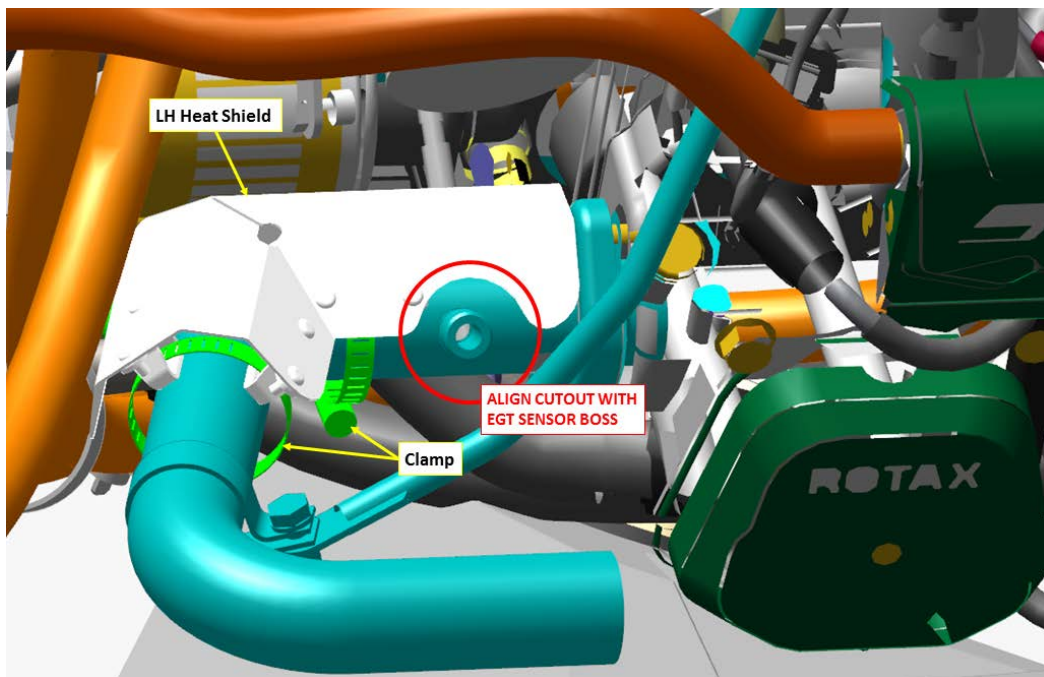

Figure 4: Left forward exhaust header heat shield installation
3. Secure Fuel Hoses, Figure 4:
4. Install LH Heat Shield (ICA011969), Figure 4: